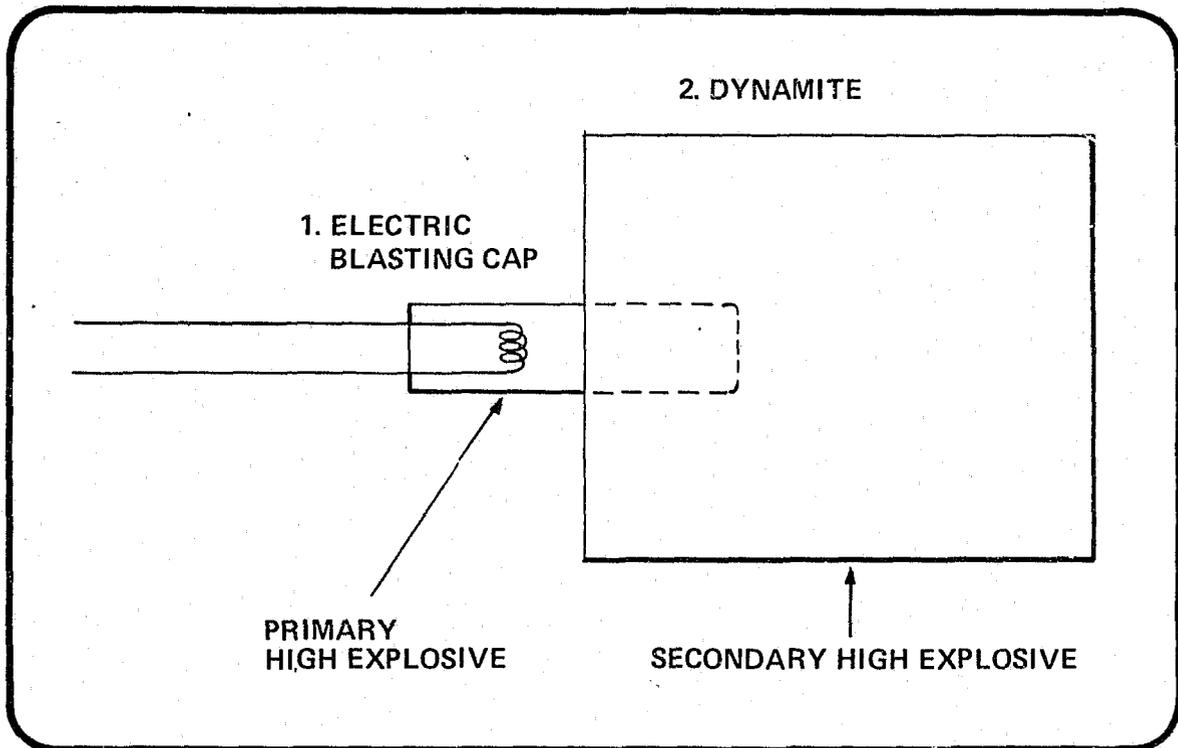

Figure 21
**Typical High Explosive Trains.** The explosive train normally used in work with high explosives is a two or three-step train. For example, to remove a tree stump from the ground a simple two-step train might be employed. An electric blasting cap, a primary high explosive, and a stick of dynamite, a secondary high explosive, would be combined as illustrated in figure 21. The blasting cap would be detonated by the heat generated by passing an electrical current through the fine wire imbedded in the primary high explosive inside the cap. The detonation wave from the blasting cap would cause the detonation of the dynamite.